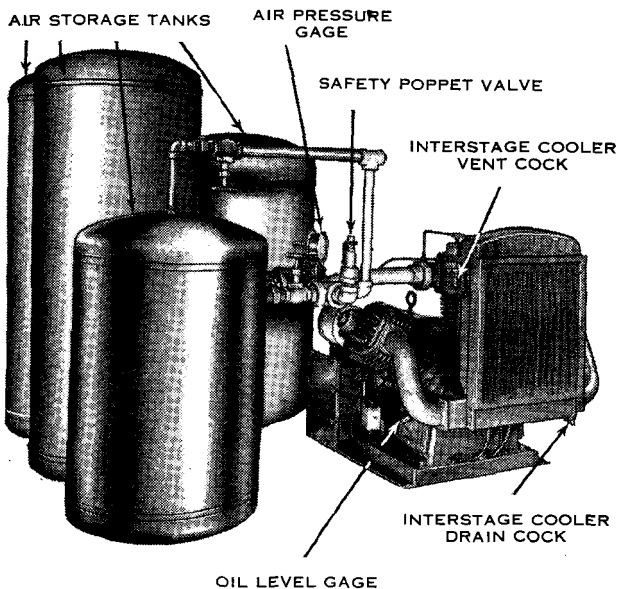

Figure 16. Air compressor.
b. Operation. (1) The artillery mechanic is responsible for the care and operation of the air compressor (fig. 16) and associated mechanisms. He must be thoroughly trained and schooled in the care and operation of the compressor. Before starting the air compressor he must—
(d) Rotate one turn the oil filter agitator (not shown in fig. 16) located at the lower left rear of the interstage cooler.